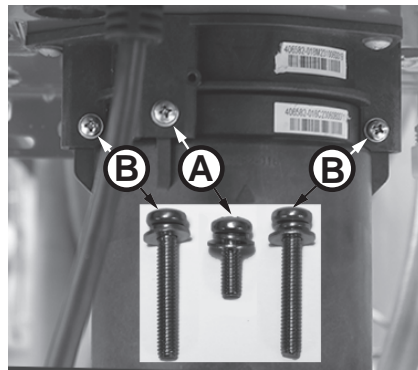

Figure 96 - Identify cartridge screws
- 6 Locate the three (3) screws securing the X3®/Bypass cartridge as shown in Figure 96. Remove the (A) M4-12mm screw and the two (B) M4-25mm screws from cartridge. Place screws aside in a safe place for reinstallation.